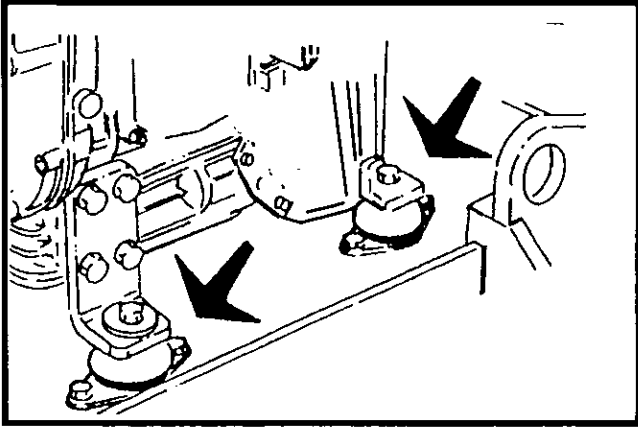
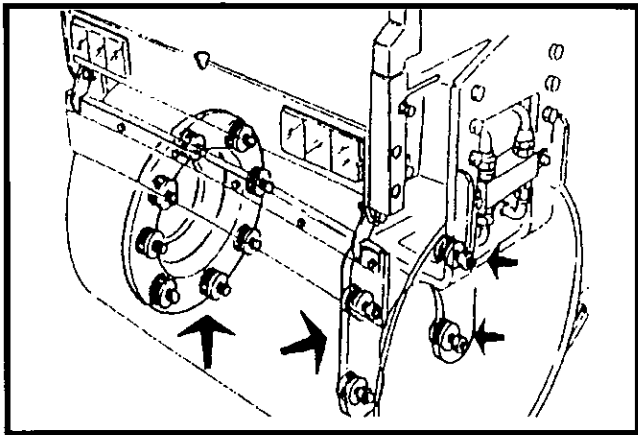

Figure 5-2 Engine Shock Mounts
Figure 5-3 Drum Shock Mounts
1. Check all engine shock mounts (Figure 5-2) and drum shock mounts (Figure 5-3), periodically for looseness or deterioration.